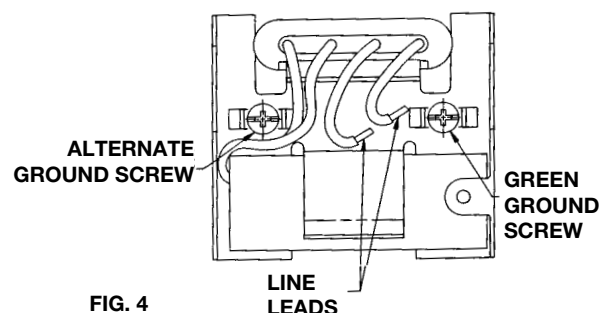

FIG. 4
- Connect the ground wire to the inside of the conduit box with one of the green screws provided inside the box. See Fig. 4.